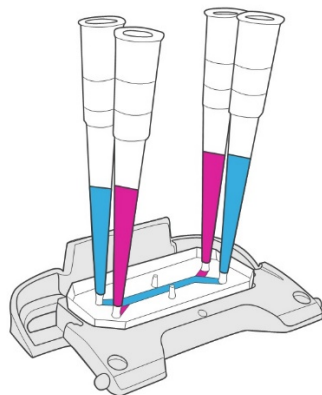

Figure 1 Pipette tips inserted in Chip-S1™ ports
6. Add 100 µL of the live staining working solution to each channel from the inlet, leaving the tips inserted into the inlet ports as shown in Figure 1 below.